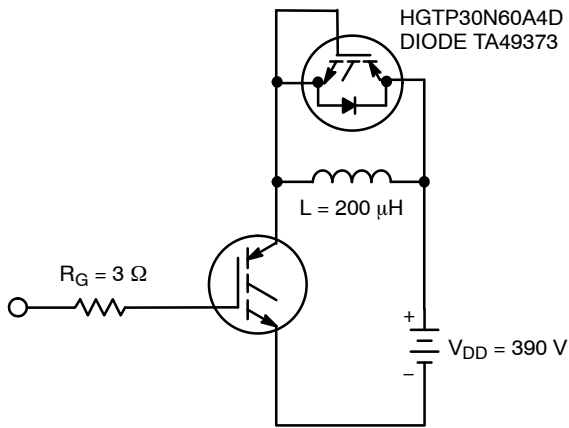

Figure 20. Inductive Switching Test Circuit
| Current Turn-On Delay Time | t _{d(ON)I} | IGBT and Diode at T _J = 25°C, I _{CE} = 30 A, V _{CE} = 390 V, V _{GE} = 15 V, R _G = 3 Ω, , L = 200 μH, Test Circuit - Figure 20 | - | 25 | - | ns |
| Current Turn-On Delay Time | $t_{d(ON)I}$ | IGBT and Diode at $T_J = 125^\circ\text{C}$, $I_{CE} = 30\text{ A}$, $V_{CE} = 390\text{ V}$, $V_{GE} = 15\text{ V}$, $R_G = 3\ \Omega$, , $L = 200\ \mu\text{H}$, Test Circuit – Figure 20 | – | 24 | – | ns |
- Values for two Turn-On loss conditions are shown for the convenience of the circuit designer. E_{ON1} is the turn-on loss of the IGBT only. E_{ON2} is the turn-on loss when a typical diode is used in the test circuit and the diode is at the same T_J as the IGBT. The diode type is specified in Figure 20.